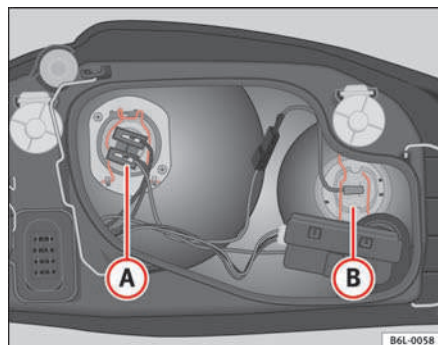

Fig. 145 Main beam lamp
- Remove the lamp cable connector (B) ⇒ fig. 145.